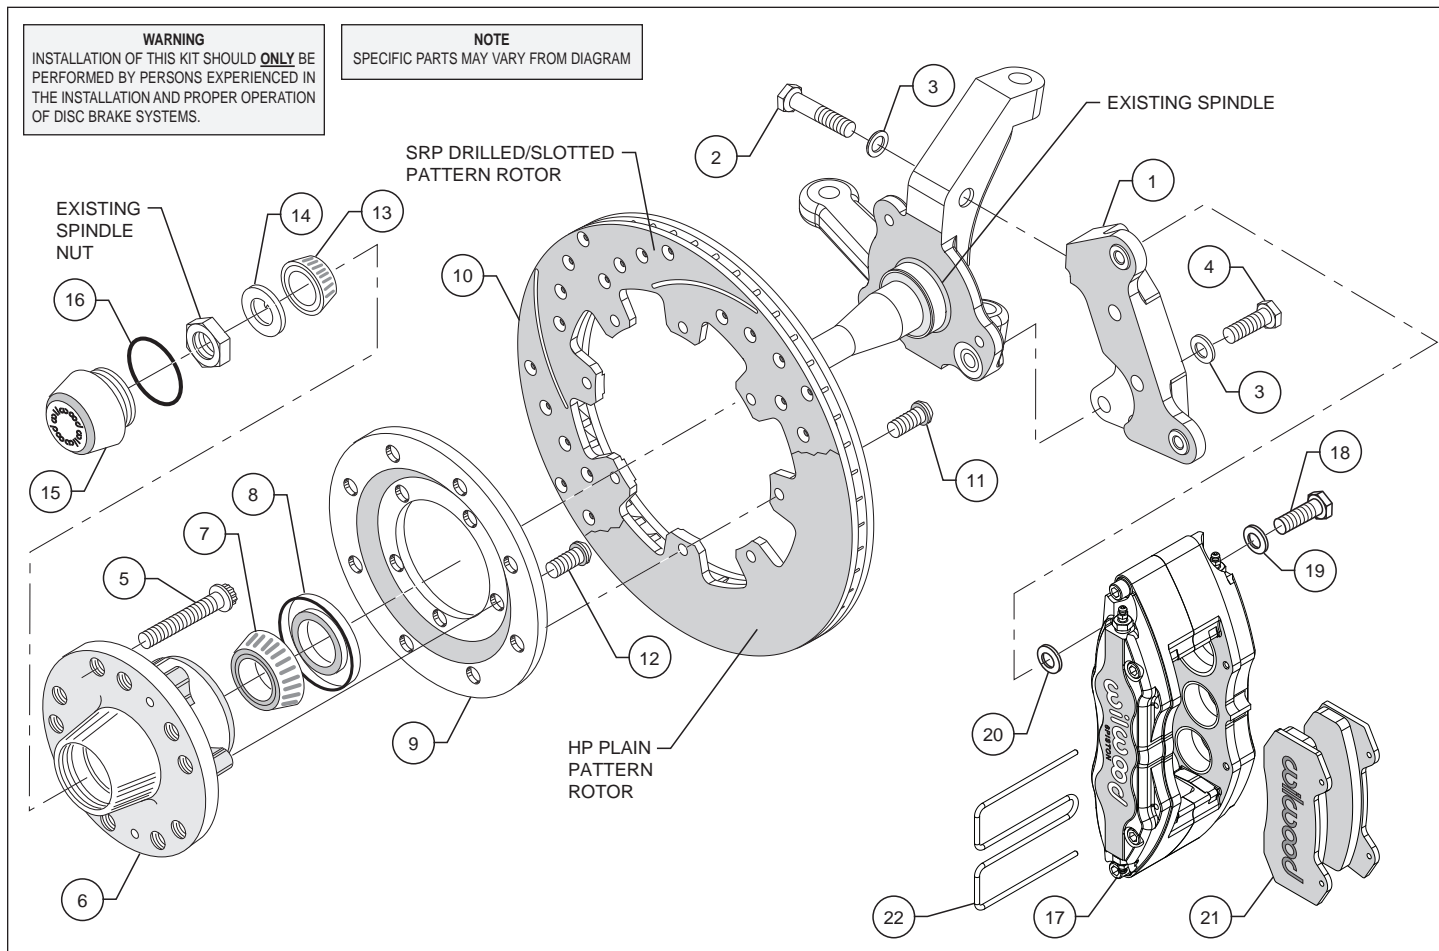

Figure 1. Typical Installation Configuration
- The caliper mounting bracket (1) should be installed first with clean, dry threads on the mounting bolts. Position the caliper mounting bracket (1) on the inboard side of the spindle.
NOTE: Be sure the heads of the caliper bracket (1) insert nuts are facing outward toward the wheel. Slide bolt (2) through washer (3) and through the upper section of the spindle into the caliper mounting bracket (1). Slide bolt (4) from the backside through washer (3) and into the mounting boss on the spindle body (reference figure 1). Finger tighten only at this time. The bracket must tighten squarely against the inboard side of the spindle body. Inspect for interference from casting irregularities, machining ridges, burrs, etc. Later, after the caliper, pad, and rotor alignment has been checked, and any necessary shims have been put in place, the threads of the mounting bolts should be coated with red *Loctite*® 271 (see below).
- Install wheel studs (5) into the hub (6). Torque to 77 ft-lb. **NOTE:** There are two lug patterns of five holes each in the hub (5 x 4.50 and 5 x 4.75). Make sure of the correct hole pattern for the wheel application before installing the studs into the hub.
- Orient the rotor (10) and the rotor adapter (9) as shown in Figure 1. Attach the rotor to the adapter using bolts (11). Using an alternating sequence, apply red *Loctite*® 271 to the threads, and torque to 25 ft-lb.
- Mount the adapter/rotor assembly (9/10) to the hub (6) using bolts (12), as shown in Figure 1. Using an alternating sequence, apply red *Loctite*® 271 to the threads, and torque to 55 ft-lb.
- Pack the large inner bearing cone (7) with high temperature disc brake bearing grease (available from your local auto parts store) and install into the backside of the hub (6).
- Install the grease seal (8) by pressing into the backside of the hub (6).
- Pack the small outer bearing cone (13) with high temperature disc brake bearing grease and install into front of hub (6). Slide the hub assembly (5, 6, 7, 8, 9 and 10) with outer bearing cone (13) onto the spindle. Secure using spindle washer (14), stock adjusting nut and nut locking device. Adjust bearings per Original Equipment Manufacturer (OEM) specifications.